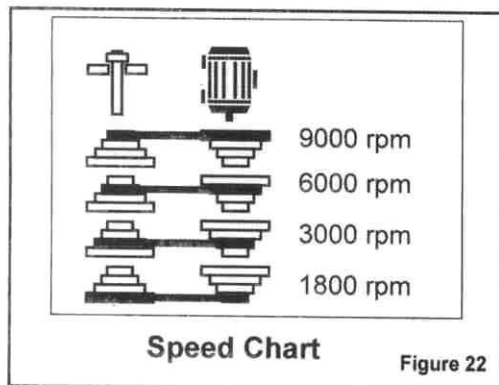

Figure 22
4. Select the desired speed. There are four speeds: 1800 R.P.M., 3000 R.P.M., 6000 R.P.M., 9000 R.P.M. Figure 22 shows the belt positions for each available speed.